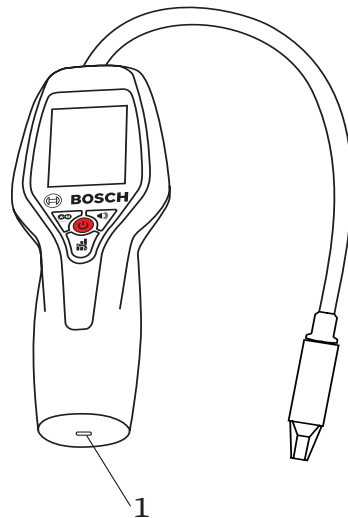

Fig. 19: Charging Leak detector
1. Connect the micro-USB connector cable to the charging port located at the base of the IR LD 1.0 (see Fig. 19).